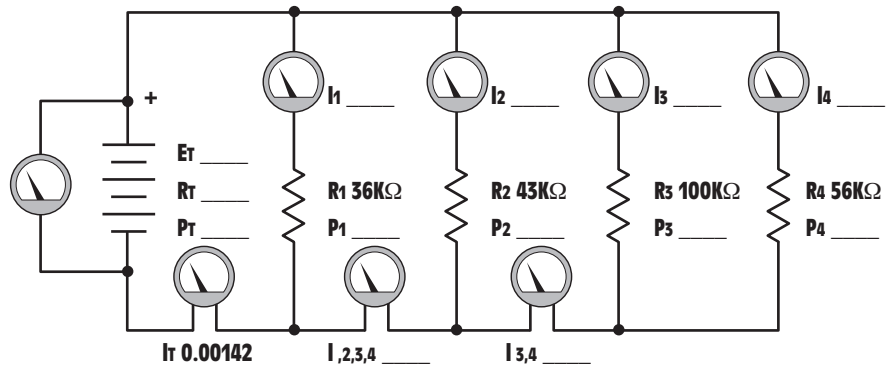

Figure 6-31 Practice Problem 6.
6. Find the missing values in the circuit shown in *Figure 6-31*.